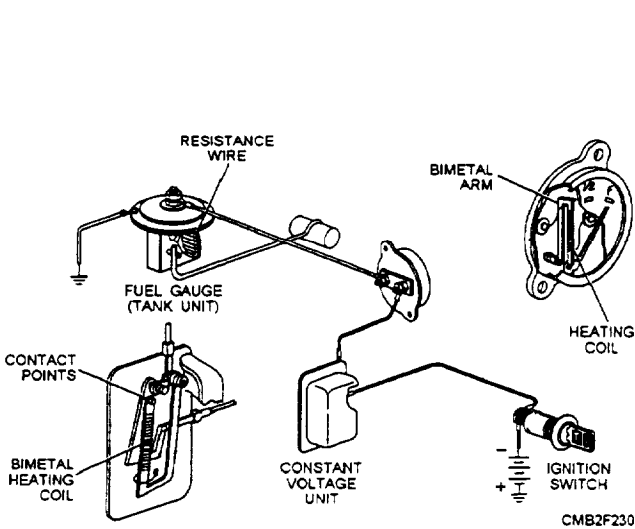

Figure 2-78.—Thermostatic fuel gauge, externally regulated.
- The THERMOSTATIC FUEL GAUGE, EXTERNALLY REGULATED (fig. 2-78), differs from a self-regulating system in the use of a variable resistance fuel tank sending unit and an external voltage-limiting device. The sending unit controls the gauge through the use of a rheostat (wire wound resistance unit whose value varies with its effective length). The effective length of the rheostat is controlled in the sending unit by a sliding brush that is operated by